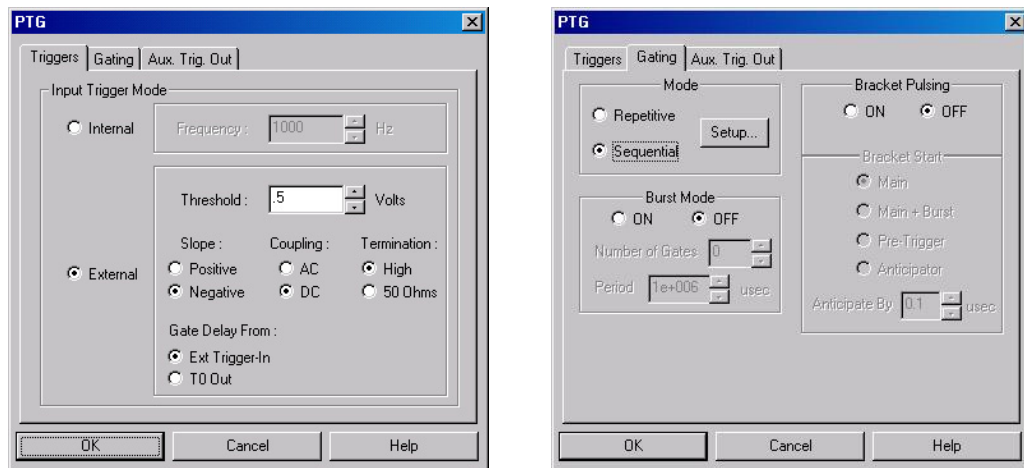
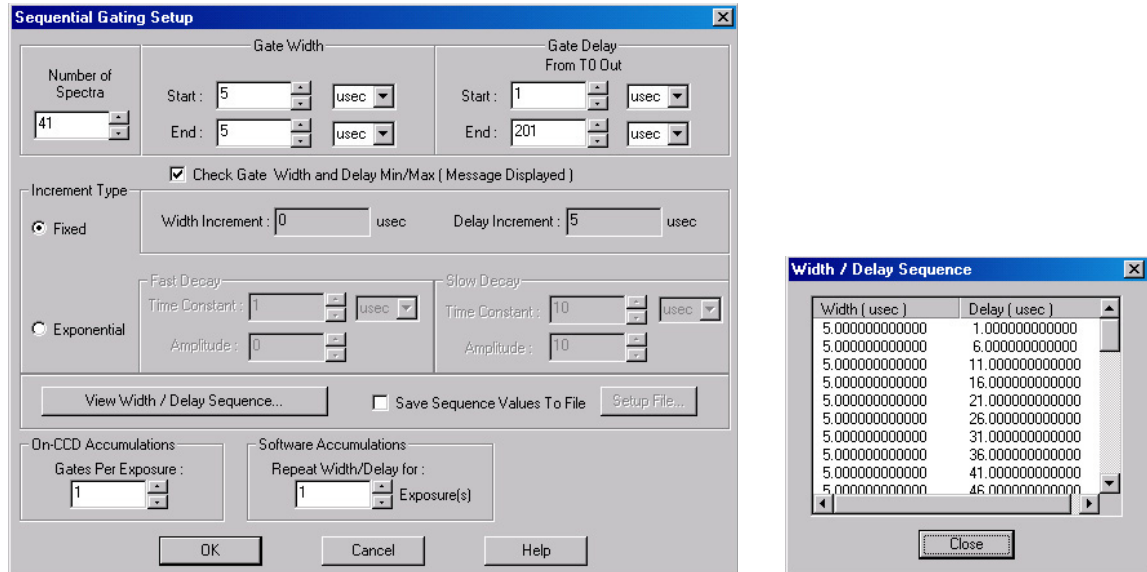
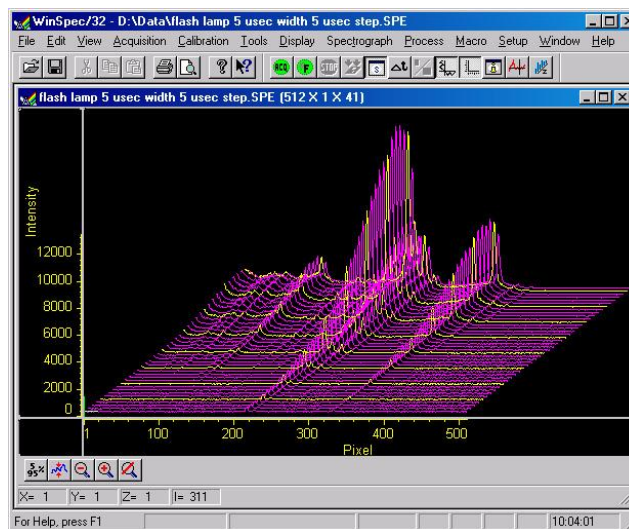

Figure 48. PTG: Triggers and Gating tabs
Figure 49. Sequential Gating Setup and Width/Delay Sequence dialogs
Figure 52. Experiment Results in 3-D
- a. After selecting the PTG as the active pulser, click on "Setup PTG...". Define the external trigger on the **Triggers** tab. *See Figure 48.*
- b. On the **Gating** tab, select **Sequential** as the Active Mode and then click on "Setup...". For this experiment both Burstmode and Bracket Pulsing are OFF. *See Figure 48.*
- c. Click on "Setup..." and define the pulse sequence on the Sequential Gating Setup dialog. *See Figure 49.*
- On the **Main** tab, enter the exposure time, gain and switch to **Gate Mode**. The number of spectra will be automatically set depending on the number entered on the Sequential Gating Setup dialog (Figure 49).
13. Figure 52 displays the 3-D graph for a “Sequential-Repetitive” experiment with Fixed Width and Variable Delay (as set in Figure 48 and Figure 49).